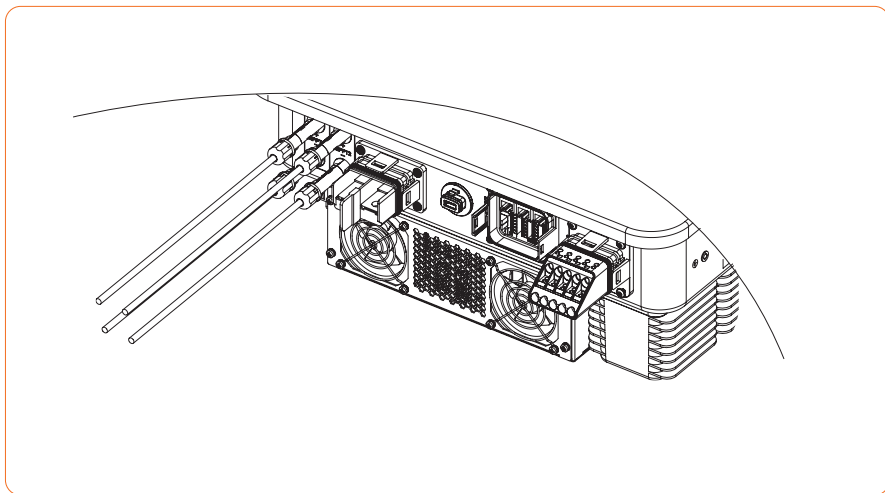

Figure 5-9
- ① Before assembling the DC connector, make sure that the cable polarity is correct.
- ② Use a multimeter to measure the voltage of the DC input string, verify the polarity of the DC input cable, and ensure that each string voltage is within 600V.
7) Insert the positive and negative connectors into the inverter DC input terminals respectively, and a “click” sound represents the assembly in place, as shown in Figure 5-9: